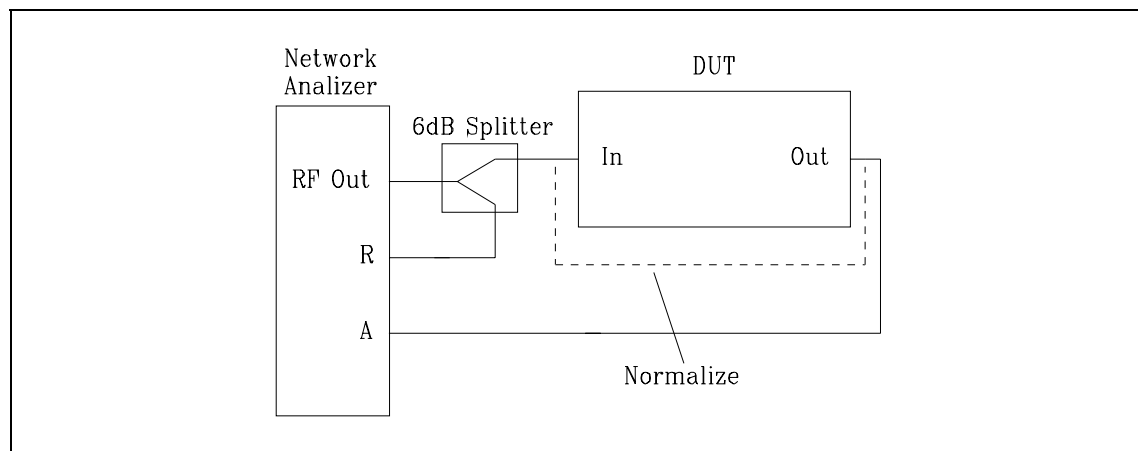

Figure 3.1 - Transfer Function Measurement Set-Up
3.1	<p>By means of the test set-up shown in figure 3.1 measure the transfer function with an input power of +4dBm.</p> <p>Adjust P2 and P3 to obtain a flat frequency response. Adjust P1 to obtain 0dB gain. Adjust P4 to obtain 90 degrees phase shift.</p> <p>Verify that changing the input level by +/- 2dBm the response remains within the specified limits.</p> <p>Note : specification limits are given in table 2.1</p>